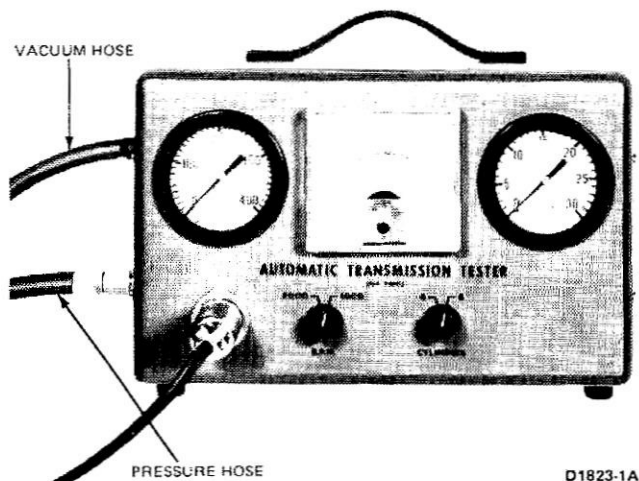
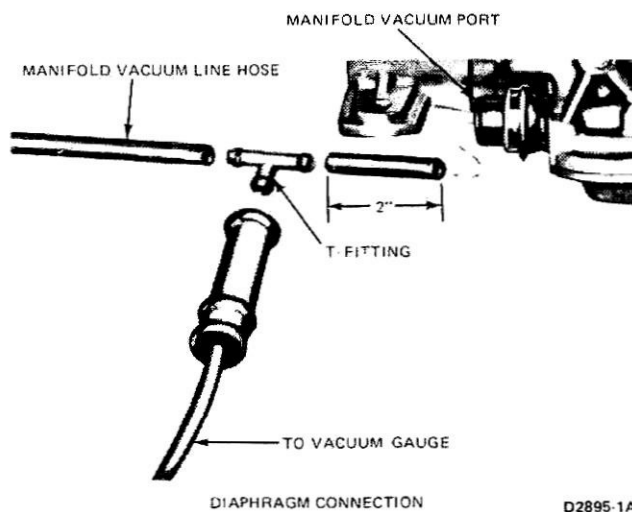

FIG. 5 Automatic Transmission Tester
FIG. 6 Typical Vacuum Test Line Connections
1. Using the automatic transmission tester (Fig. 5) or equivalent, attach the tachometer to the engine, and the vacuum gauge to the transmission vacuum line at the manifold vacuum port (Fig. 6).